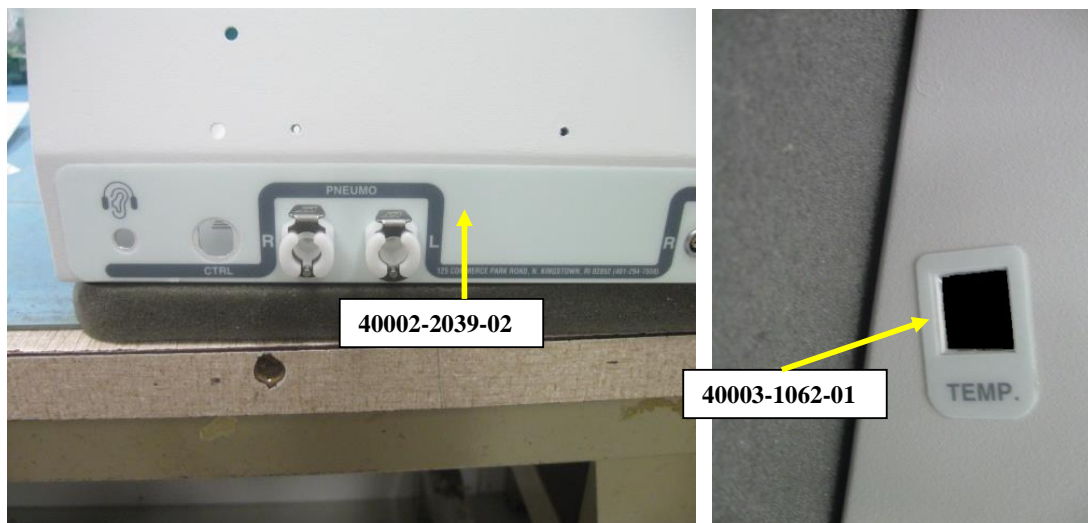

Figure 15
- 10.1. Apply the Front Panel Label (40002-2039-02) and the Temp Label (40003-1062-01) onto the Main Chassis as shown in Figure 15.